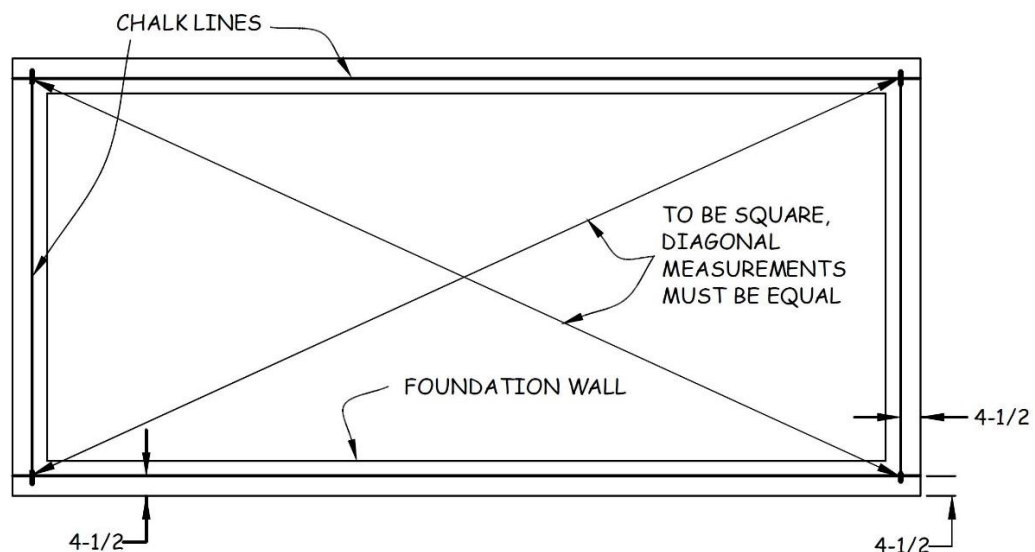

Figure 1-1. Squaring Foundation Lines.
4. With a long steel tape, "burn a foot" and measure the diagonals between the corner marks to check for square (see Figure 1-1). If the measurements differ by $\frac{1}{8}$ " OR MORE, adjust the corner marks at each end of the short diagonal by lengthening the corresponding long wall by one-half the difference. Verify the two diagonal measurements now differ by less than $\frac{1}{8}$ ".